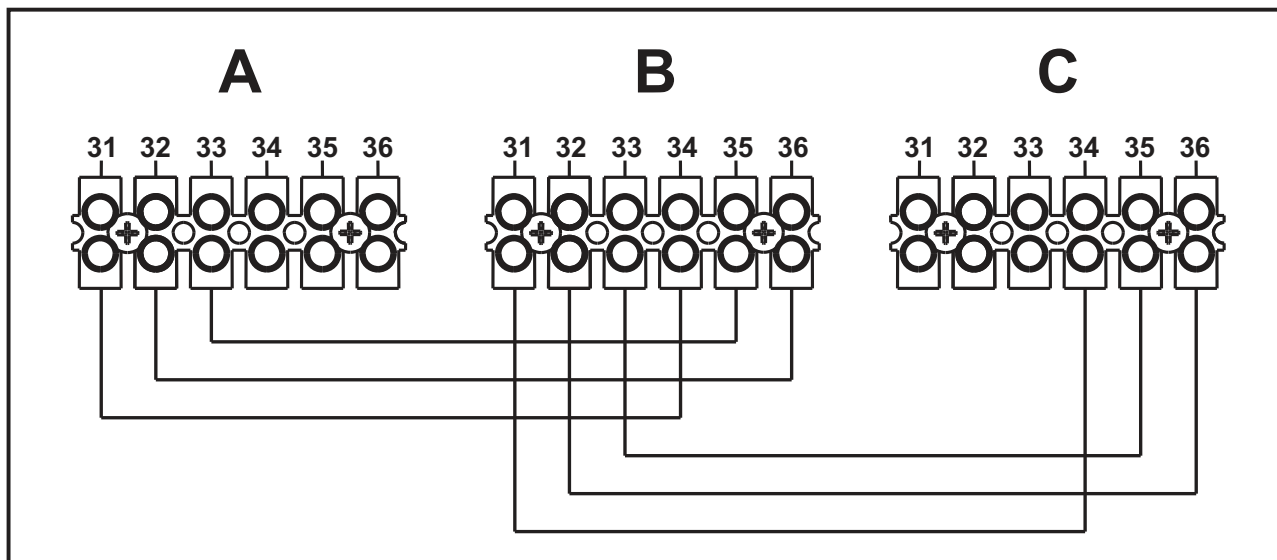

fig. 56 - Connection in cascade
1. Connect the modules as shown in fig. 56 (**example with 3 modules**)
If this does not occur, disconnect the power supply and check the wiring in fig. 56.